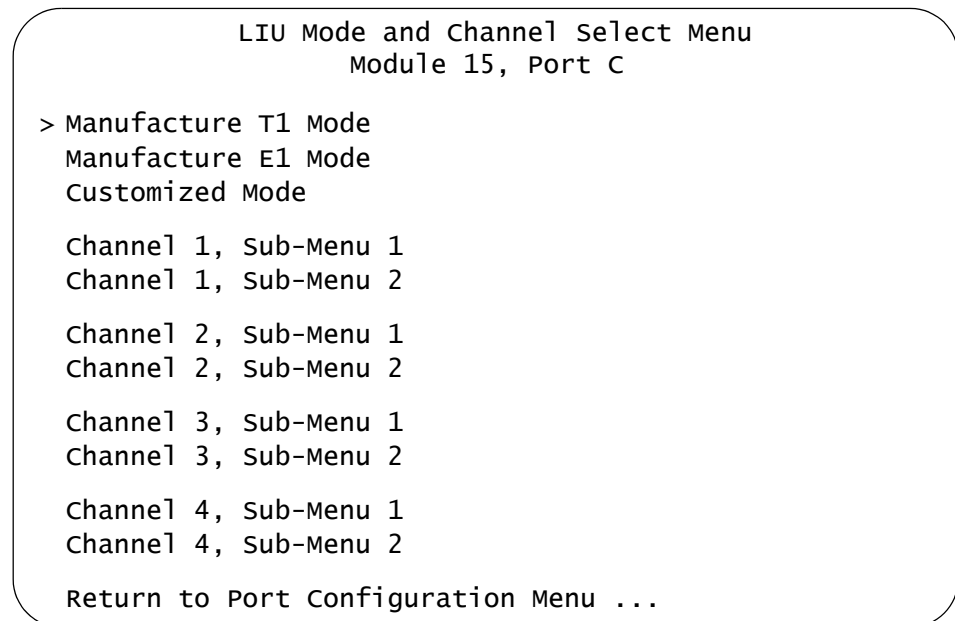

Figure 85. LIU Mode and Channel Select Menu
4. From the TDM Management Menu, select **TDM Port Configurations** to display the LIU Mode and Channel Select Menu, shown in Figure 85.